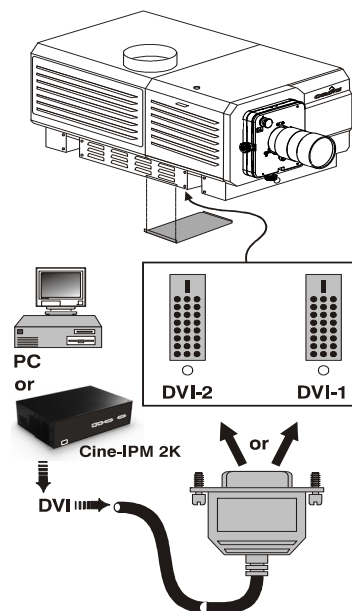

Figure 5-1 Non-cinema DVI Source Connection
Make sure your non-cinema DVI source is connected to **DVI-1** or **DVI-2** at the underside of the CP2000-XP projection head (**Figure 5-1**). These connections are typically made at the time of projector installation. **NOTES:**
1) You must first remove the access panel located on the underside of the projector near the air filter—see **Figure 5-1**. Drill an exit hole or leave the panel off. **2)** For details about connecting Christie's Cine-IPM 2K, refer to the *Cine-IPM 2K User's Manual* supplied with the device.